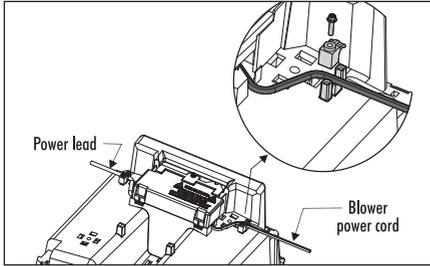

Fig. 13
2. Make the necessary electrical connections i.e. connect wiring from blower assembly and wall switch to terminal block as per circuit diagram. For models 11511, 12511 and 11532 reposition terminal cover on top of the Tastic unit and then secure with screw. Fit two cord anchor clamps as per Fig. 13.